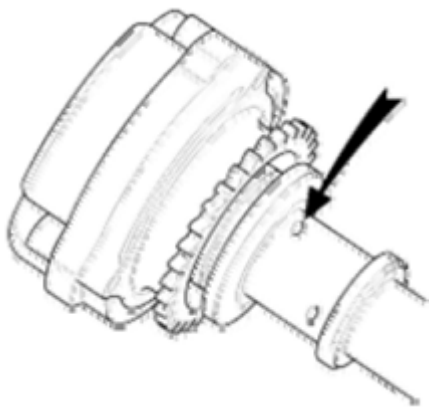

Fig. 33: Identifying No-Tape Area
2. Apply vinyl tape to all the parts except the one indicated by the arrow in **Fig. 33**.
4. Under the condition of (3), turn the CVVT assembly to the advance angle side (the arrow marked direction shown in **Fig. 33**) by hand.